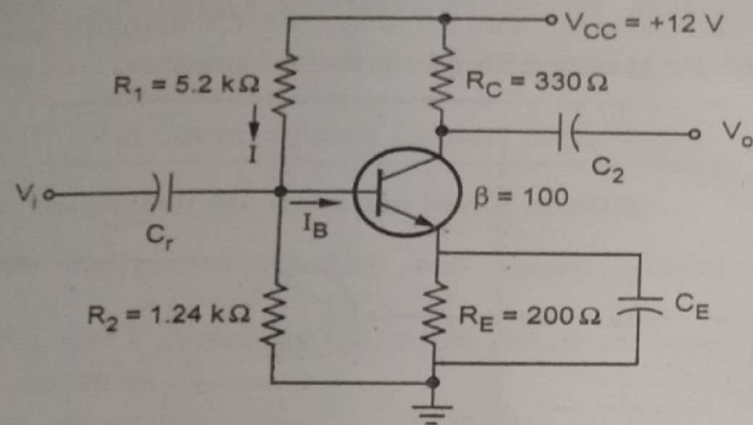

Fig. Q.7.1
Q.7 Draw the dc and ac load lines for the transistor circuit shown in Fig. Q.7.1.